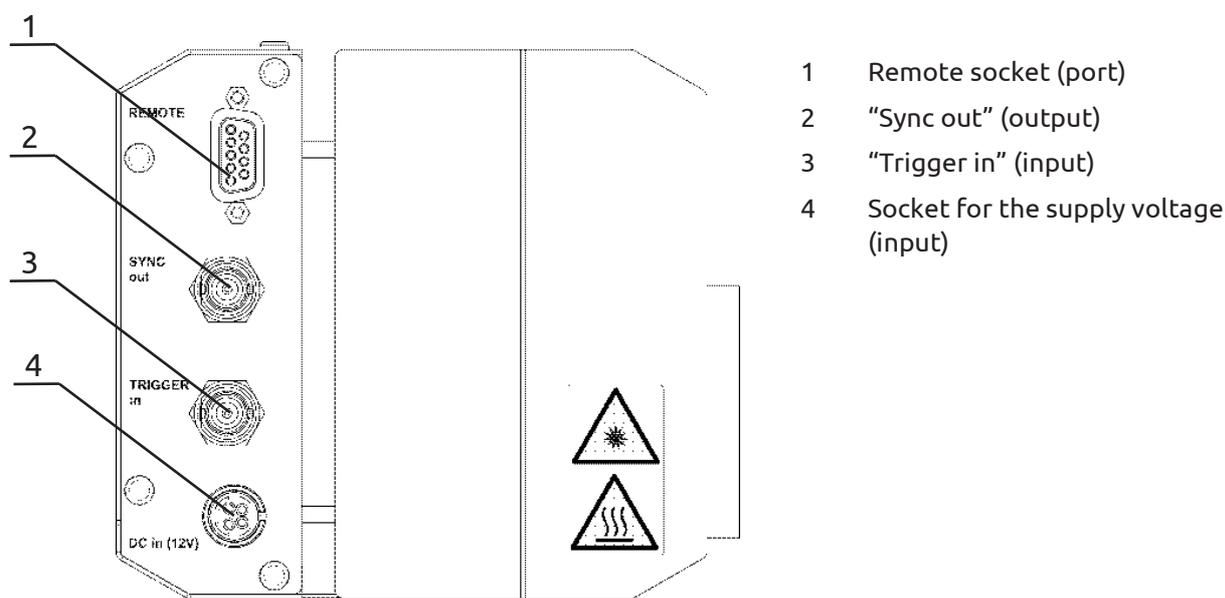

Fig. 3: Electrical connections
- Remote socket (Fig. 3[1]): makes it possible to connect various accessories
- “Sync out” (output) (Fig. 3[2]):
- “Trigger in” (input) (Fig. 3[3]):
- Socket for the supply voltage (input) (Fig. 3[4]):
Alternatively, the brightness of the LED can also be adjusted via the control voltage which is applied through the "Remote" socket (Fig. 3[1]). If the "-" or "+" button is now pressed, the brightness level set during such action will then be accepted as the default value and changes to the lamp housing can only be made by pressing the "-" or "+" buttons. The control voltage can only be used as a means of controlling the brightness again, after the ON/OFF button has been briefly pressed. The lamp housing will be automatically switched on, as soon as the control voltage is applied.